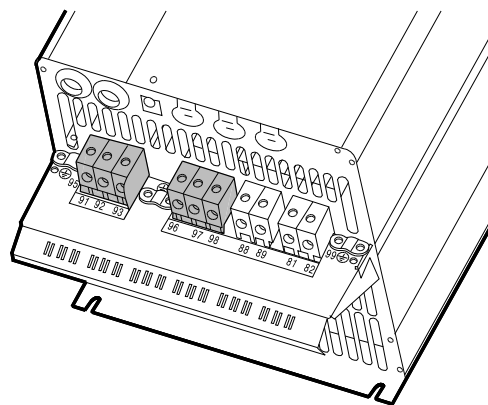

Fig. 19 Mains and motor connection, C3
1. Connect the earth conductor to terminal 95 (PE). See figures 19 and 20.
1. Connect the earth conductor to terminal 99 (PE). See figures 19 and 20.
2. Connect the motor conductors to terminals 96 (U), 97 (V), 98 (W).